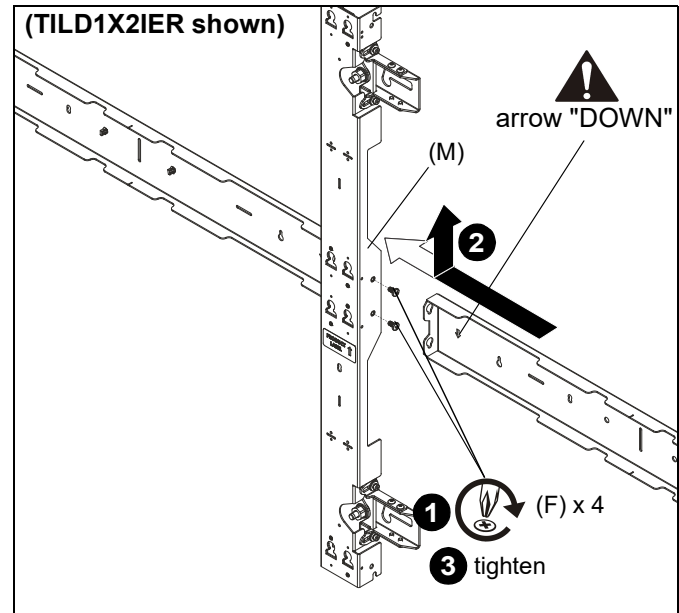

Figure 15
1. Partially install two 1/4-20 x 1/2" Phillips pan machine screws (F) into middle two holes on middle upright (M). (See Figure 15)
2. Hang spacer plate (P) onto partially installed screws (F) and lift up until screws are properly seated in keyholes. (See Figure 15)
3. Tighten screws (F) to secure spacer plate (P) to upright (M).
**NOTE:** Add uprights (M) or (N) one by one from left to right as the mounting system is being built on the wall.